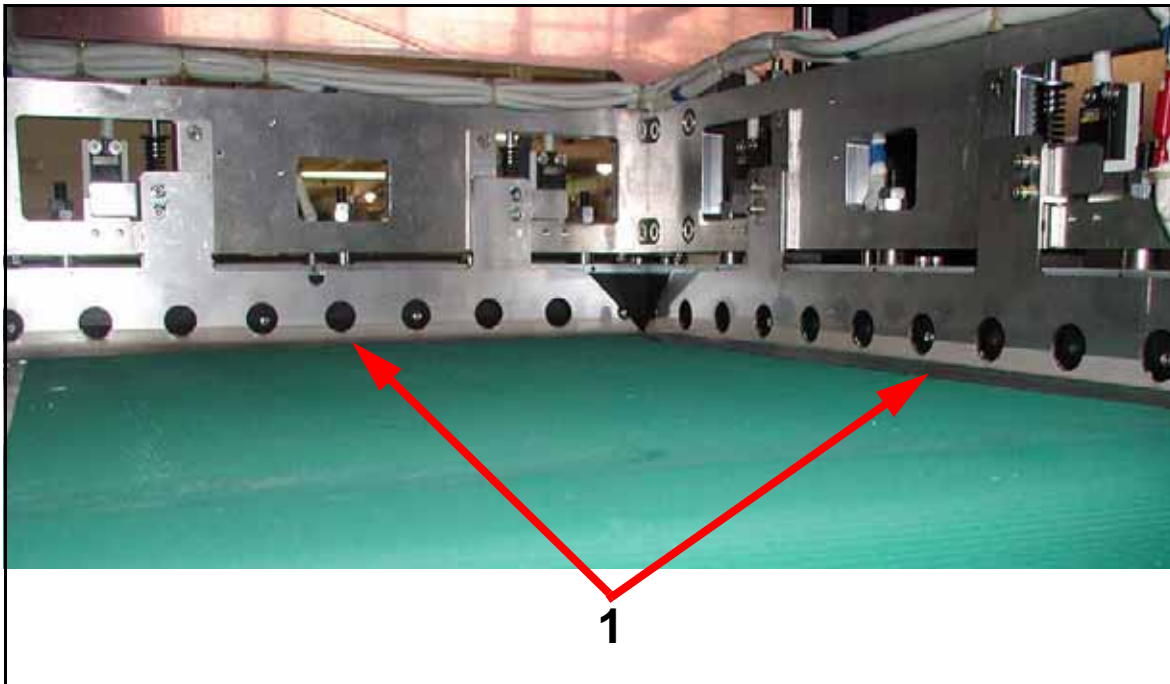

Figure 6-3. Seal Blades
- 1 Apply a thin film grease to each seal blade (1 in Figure 6-3) with a cotton swab.